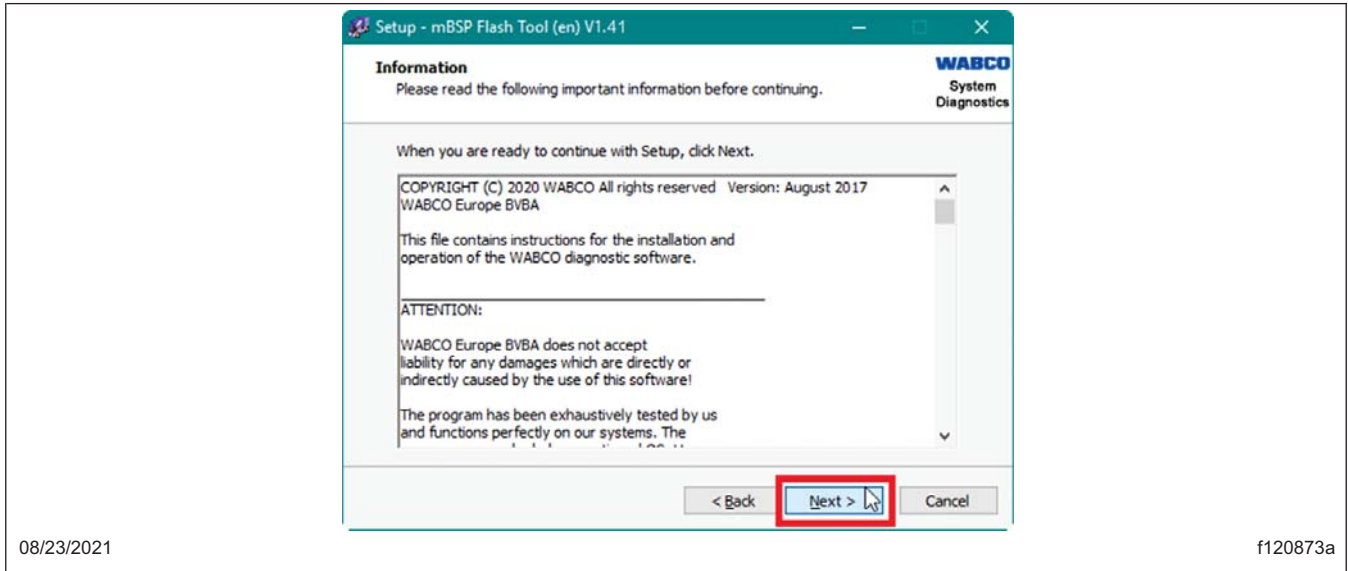

Fig. 13, Navigating Past the Information Window
7.7 An 'Information' window will appear; read the information, then select 'Next.' See Fig. 13.